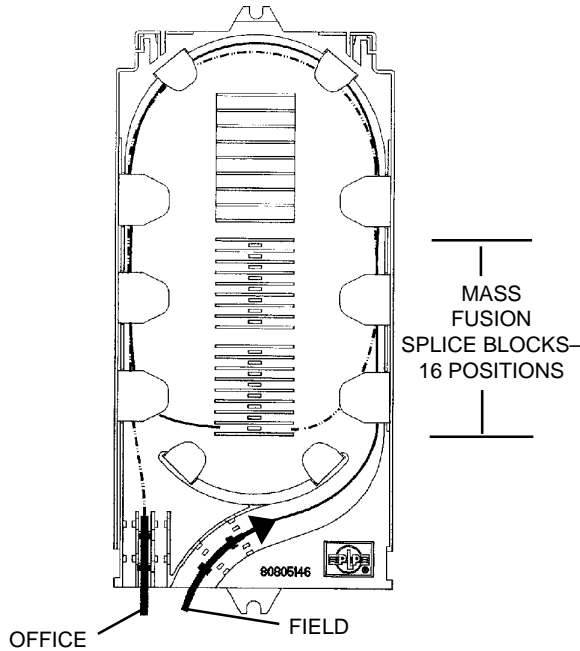

FIGURE 36 - ROUTING FIBERS IN THE MASS FIBER SPLICE TRAY FOR MASS FUSION
13.07 When routing fibers in the **MASS FIBER SPLICE TRAY for MASS FUSION**, route fiber 1-3/4 times around the splice tray and lay into the splice block. (Figure 36)